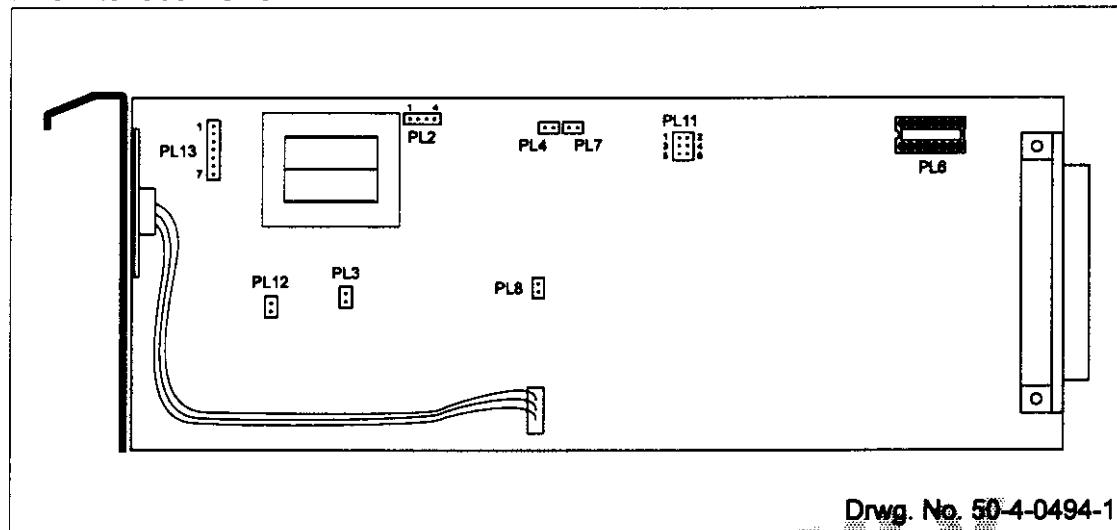

Figure 4.4: Controller PCB Pin Locations
Figures 4.4 and 4.5 show the locations of the configuration pins on the Controller and Line Interface PCBs.
**Note:** Refer to Figure 4.4 or 4.5 for the pin locations.
The loop current for phones connected to the Channel A socket may be increased to 45 mA by removing the controller PCB from the module, as described in Section 4.2.1, and linking pins 5 and 6 of PL11 on the controller PCB (see Figure 4.4).